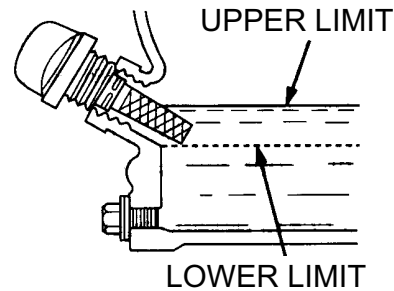

Figure 6. Engine Oil DipStick (Oil Level)
4. If the oil level is low (See Figure 6), fill to the edge of the oil filler hole with the recommended oil type (Table 5). Maximum oil capacity is 0.59 quarts (0.56 liters).